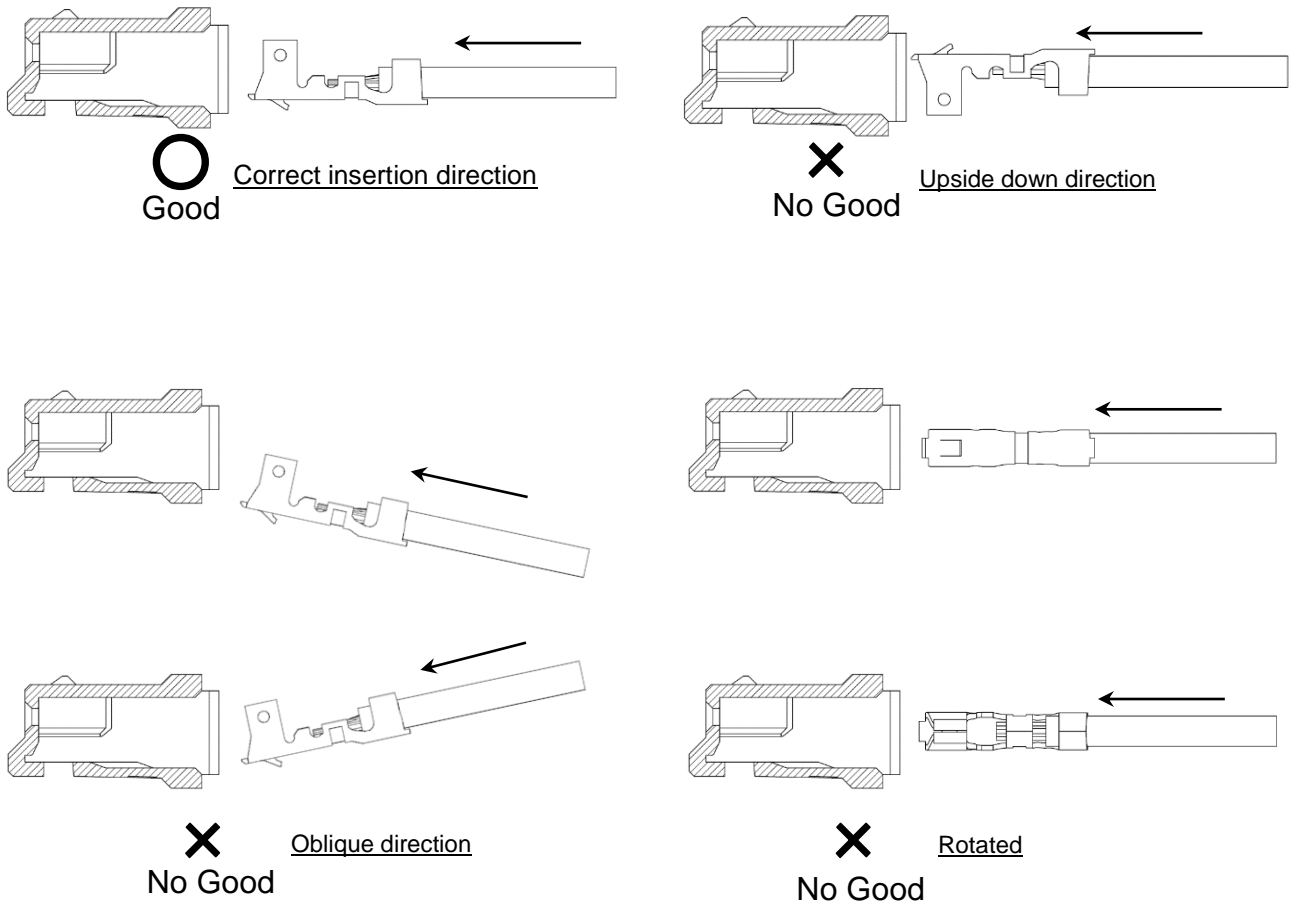

Fig.5-2
- *Please keep correct insertion direction. Please be careful that the terminal is not upside down, not having an angle, or not rotated against receptacle housing. These may cause terminal deformation or damage to receptacle housing. (Fig. 5-2)